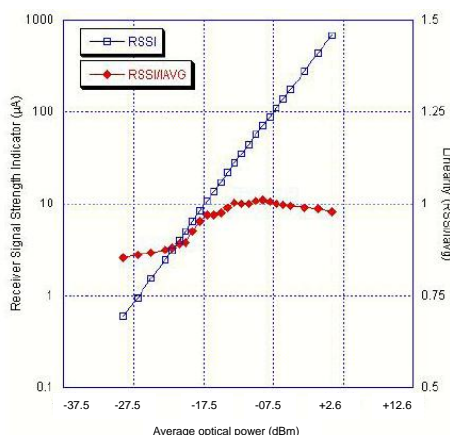

Figure 11 - Average monitor current and RSSI voltage
- ❑ RSSI (Receiver Signal Strength Indicator) - Pin 24 and register 64-65h in table 00h: the DC/low-frequency output I_{AVG} sources a current proportional to the average input photocurrent. The I_{AVG} source is internally loaded by a 10K Ω resistor. This resistor could be over driven by an external one attached to the RSSI pin and GND. The resulting voltage at the RSSI output pin should be kept below 2.0 V to maintain linearity. This output can be used to monitor the optical power incident on the photodiode. It may be left open if not used. The upper corner frequency of the output RSSI is equal to the roll-on frequency f_{LOW} of the high-speed data path (Figure 11 - & Receiver characteristics table).
- ❑ Signal Detect (SD) - Pin 30 and bit 2 @ 70h in table 00h: this Status bit indicates if the receiver optical power is below threshold or not. If this status bit is asserted is the RSSI value is below a predefined threshold one.